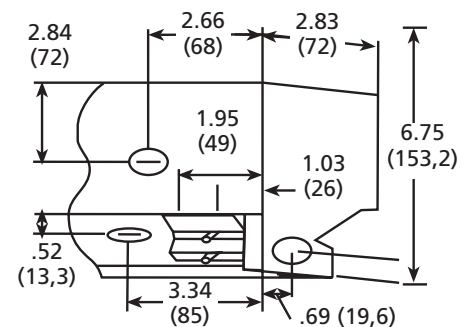

Figure 4 – Wiring Compartment Dimensions – in. (mm)
NOTE: Make sure the caution label with the word "TOP" is at the top of the heater. For most efficient operation locate heaters along outside wall under windows. Position heater so it can be secured to wall stud. Power cable must enter heater through one of the knockouts provided in wiring compartment. See Figure 4.
5. Loosen screw in built-in cable clamp or remove desired knockout from heater wiring compartment (Figures 4 and 5). Install power cable into wiring compartment allowing at least 6" (152 mm) of cable for connection to heater. To install two power cables using the built-in cable clamp, bend tab covering second hole up and back